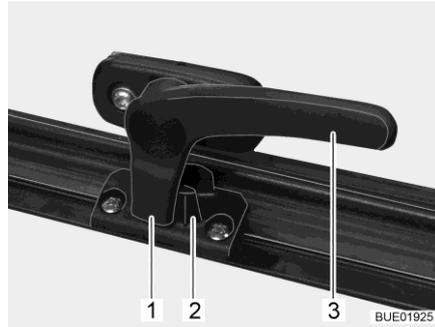

Fig. 21 Catch lever ("closed" position)
- Turn the catch lever (Fig. 21,3) a quarter turn towards the centre of the window.
- Turn the catch lever (Fig. 21,3) a quarter turn towards the window frame. The locking catch (Fig. 21,1) is located on the inside of the window catch (Fig. 21,2).
- "Firmly closed" (Fig. 21).